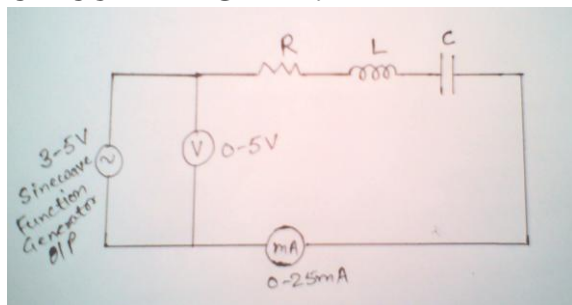

Figure 1
1. Make the circuit diagram as shown in Figure 1.
1. Connect the circuit as shown in Figure 1. Connect resistance R . Capacitor C and inductance L in the circuit.